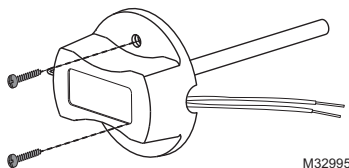

Fig. 10. Mounting Discharge/Return Air Sensor.
2. Drill 1/4-inch hole for the sensor probe and mount it to the ductwork with enclosed screws (see Fig. 10).